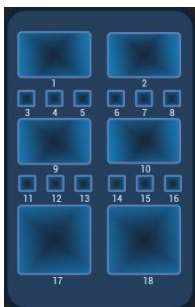

Figure 4-3 : Well position
- Well No.1 (see Figure 4-3)
➤ Well No.2 (see Figure 4-3)
➤ Well No.1 and No.2 (see Figure 4-3)
- Well No.15 (see Figure 4-3) : Add 500 μ L of MDA Enzyme Mix to the MDA Reagent tube with a 1 mL pipette. Vortex for 5 seconds to mix thoroughly and then add the mixture to well No.15. When adding the mixture, make sure there are no bubbles at the bottom of the tube.
① **Note :**